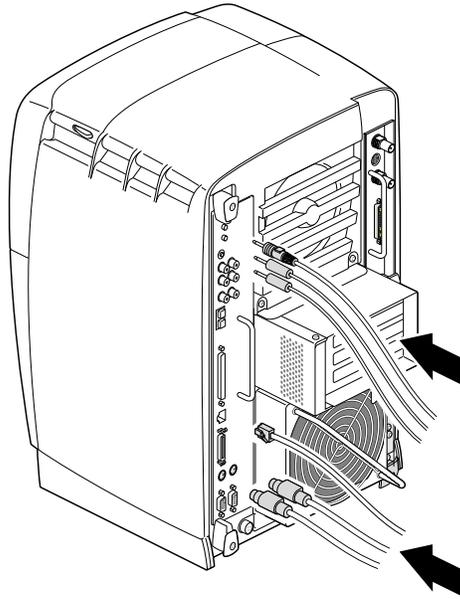

Figure 2-26 Reconnecting Cables to the System Module
6. Reconnect any cables you removed, as shown in the example in Figure 2-26.